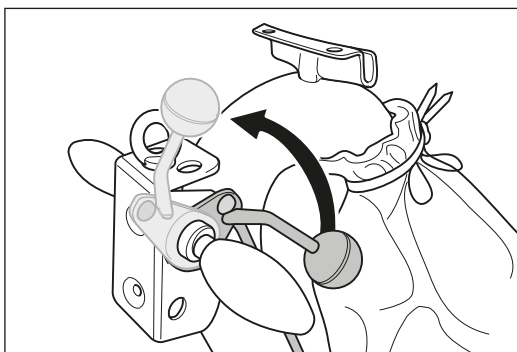

Fig. 26 Lift the sanding drum off the floor by turning the lowering lever at the handle upwards.
- 1 Lift the sanding drum off the floor by turning the lowering lever at the handle upwards (fig. 26).
Once the above conditions have been met and the sanding drum has lifted off the floor (fig. 26), you can start sanding: